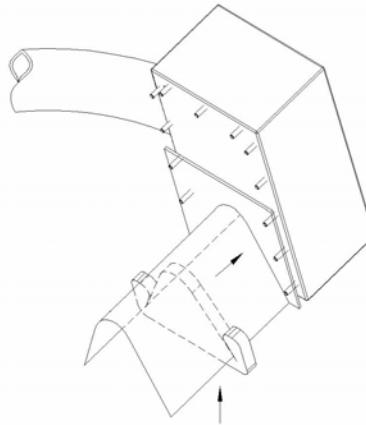

Figure 3.c
12. The zero-state calibration must be done first. Place the opaque filters (the triangle shaped pieces of rubber) on the receiver and transmitter hoods as close to the glass windows as possible. The filters are 5/8 thick rubber, triangular in shape, with ears that hook over the transmitter and receiver hoods to secure them in place. They may be attached easily near the mid point of the hood and slid back to the window as shown in Figure 3.c.